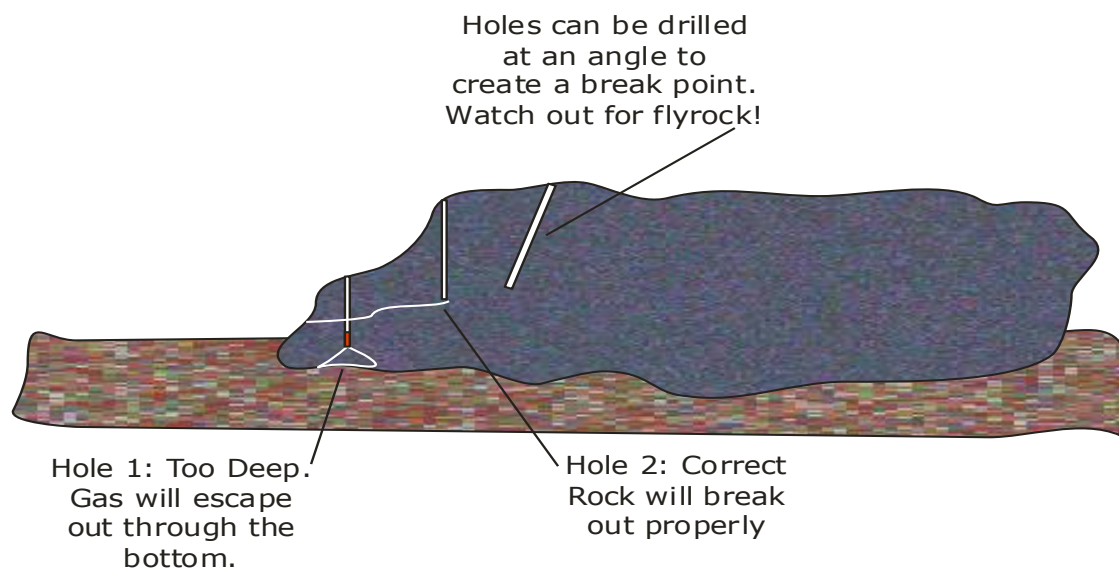

Fig 9. Breaking of In Situ Rock
- Holes should be drilled at a 70 ° angle to facilitate a break point. See Figure 9.